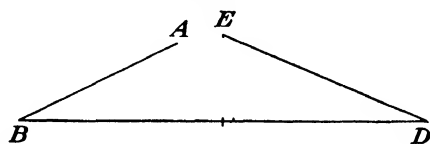

Fig. 127.
1. With the help of a protractor draw  $\angle ABD$  and  $\angle EDB$  (Fig. 127) in your notebook. (a) Construct an angle equal to  $\angle ABD$ . (b) Construct an angle equal to  $\angle EDB$ .